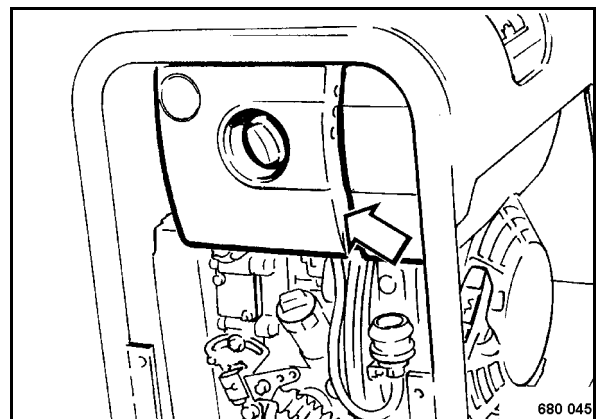

Fig. 40
- Remove the air filter cover (Fig. 40).